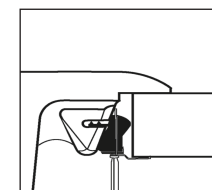

Figure 4
5. Secure the sink by pivoting the sink clips into the position illustrated and tighten screws in the front, then tighten rear and side screws. (Figure 4)